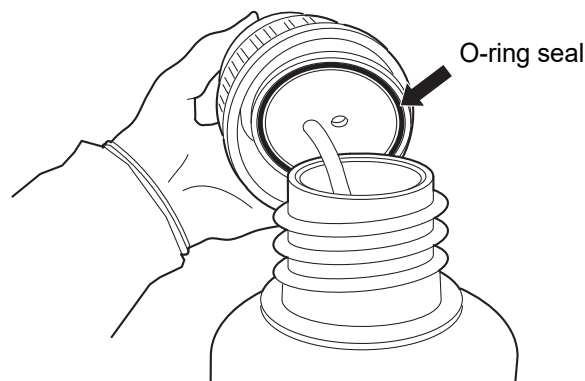

Figure 8-11 Inspect Waste Bottle O-Ring Seal
4. Before reattachment, inspect the O-ring seal on the inside of the waste cap for debris. See Figure 8-11.